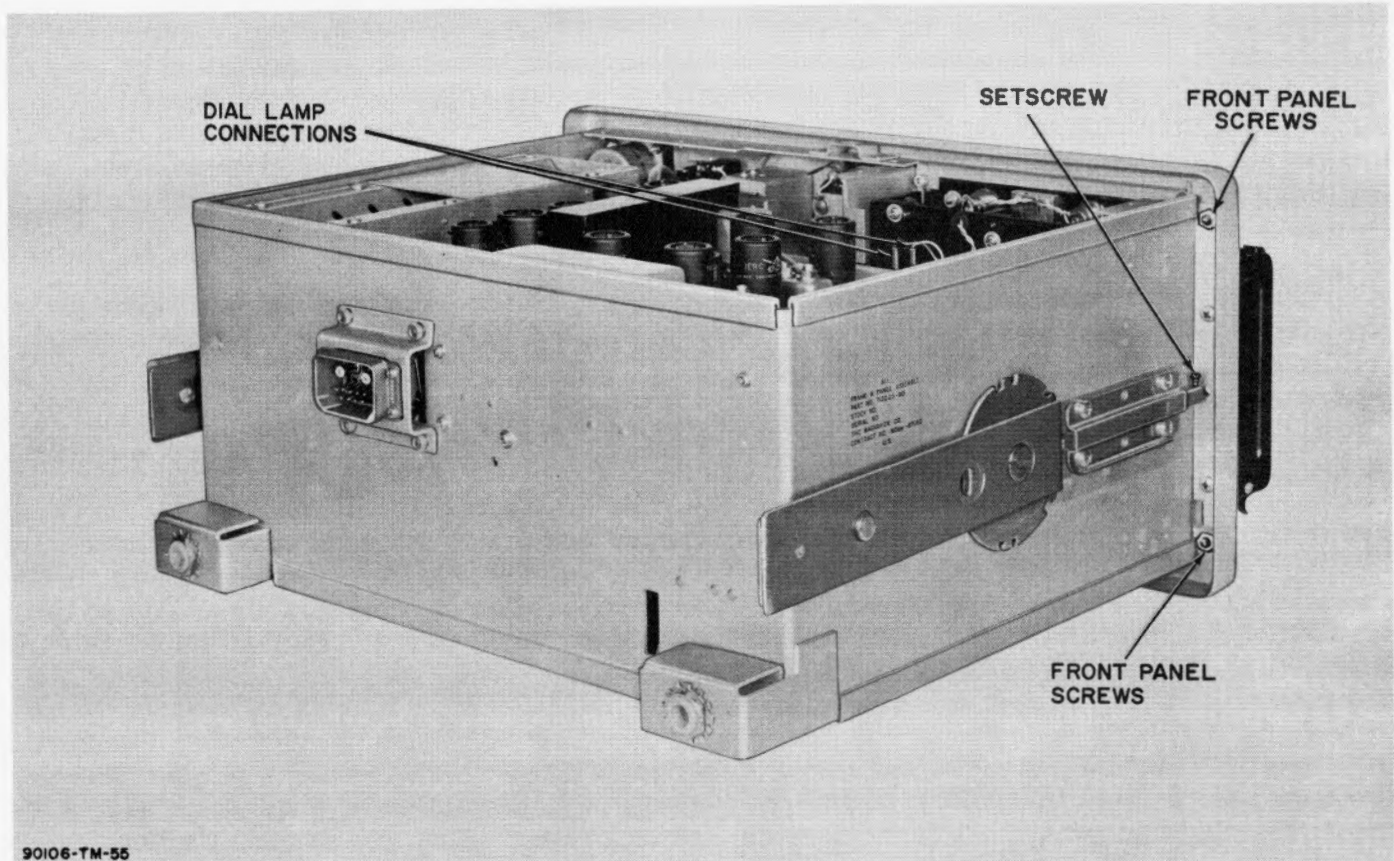

Figure 6-11. Removal of Front Panel
(7) Rotate the Tuning Control clockwise until the finger stop is back in its original position.
(8) Replace the coaxial inserts in J1101-A1, J1102-A1, J1103-A1 and J1104-A1.
(9) Replace the wiring trough cover and the assemblies.
(10) Align the receiver (see paragraph 6-2). RF section may be the only section requiring alignment.
m. REMOVAL OF FRONT PANEL (see figure 6-11). - Unless extensive damage has been done to the front panel itself, it does not need to be removed. All components mounted on the front panel may be removed and replaced without removing the front panel. To remove the front panel, proceed as follows:
(1) Remove the receiver from its cabinet.
(2) Remove the tuning drive assembly (refer to paragraph 6-3f).